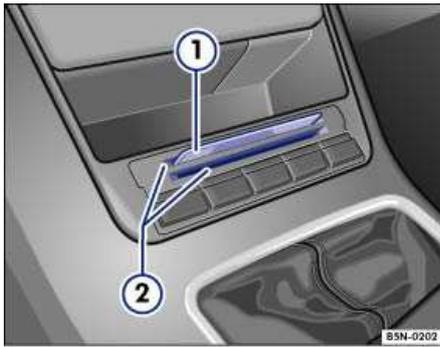

Fig. 77 Card holders in the center console.
There are two card holders in the center console ⇒ Fig. 77 (2) in which you can store coins, gasoline cards (1), parking receipts, etc.